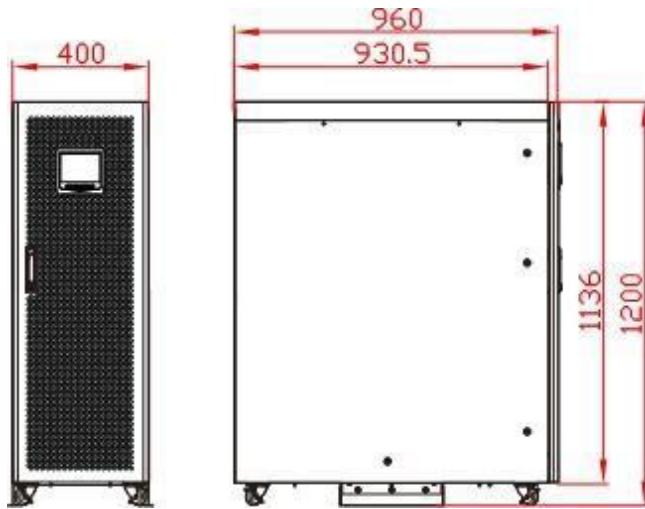

Figure3-9 Size
Step 1 Determine and plan the installation position according to the UPS size (as shown in Figure3-9) and installation clearance requirement (see **3.2.3 Installation Space**).